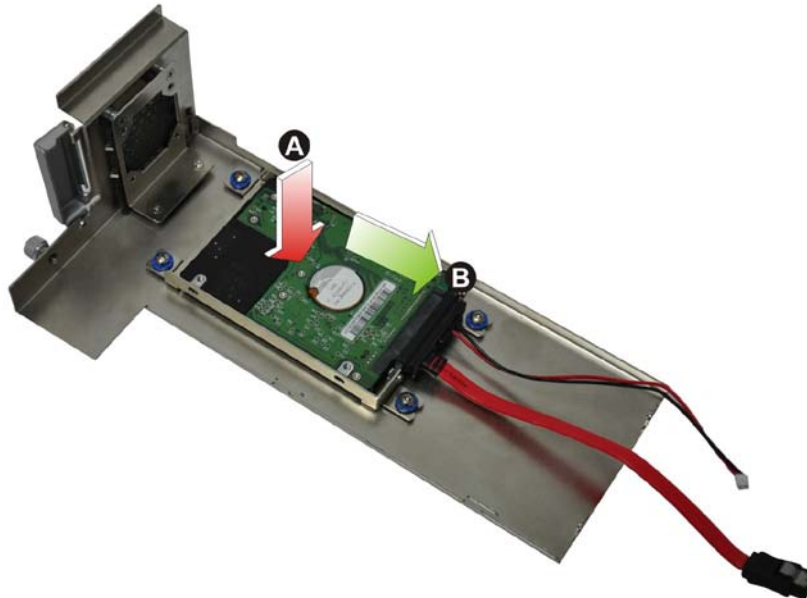

Figure 3-6: HDD Installation
Step 3: Attach the HDD to the HDD bracket, and then slide the HDD to connect the HDD to the SATA connector (**Figure 3-6**).